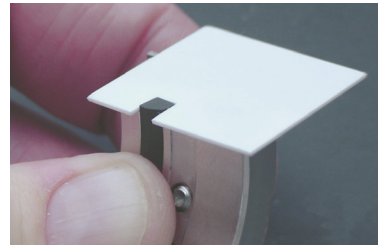

Figure 6
- 4.4 Check the gasket extension with the height gauge. See Figure 6.